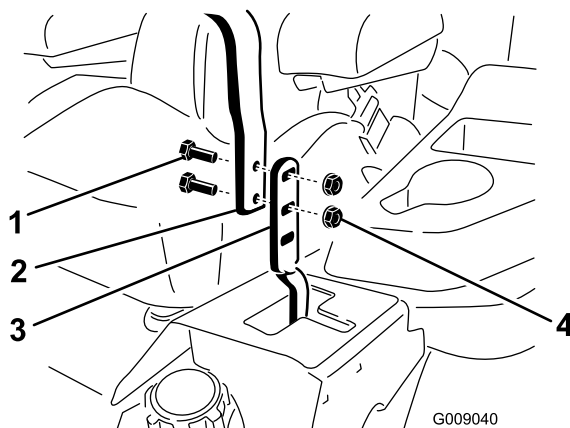

Figure 79
3. Loosen the bolts and flange nuts installed in the levers (Figure 79).